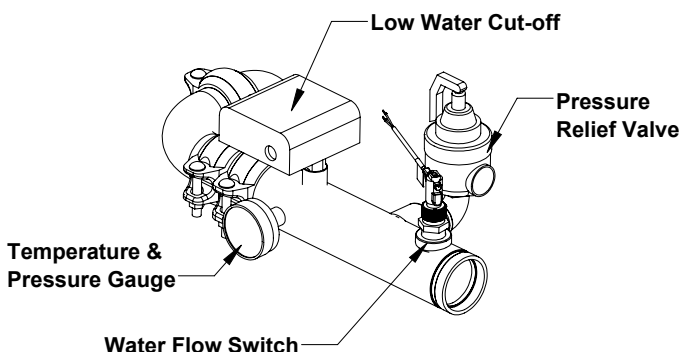

Figure 12: Factory Supplied Water Manifold
1. A pressure relief valve is included with every BFIT boiler. If the Relief valve is shipped loose, install it to the outlet manifold as shown in Figure 12.